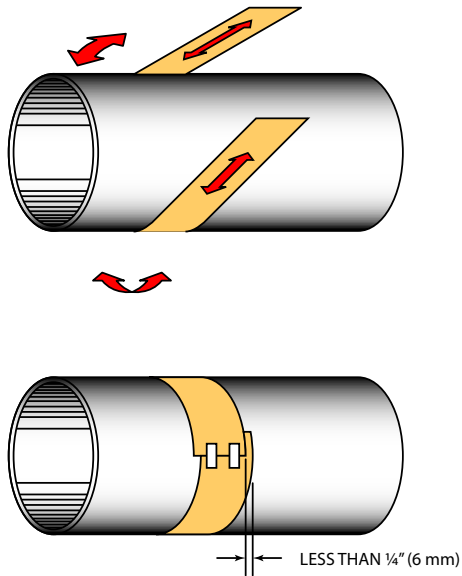

Figure 28: Paper template alignment
1. Wrap the paper around the pipe in the manner shown in *Figure 28*. Align the paper ends to within 1/4 inch (6 mm).